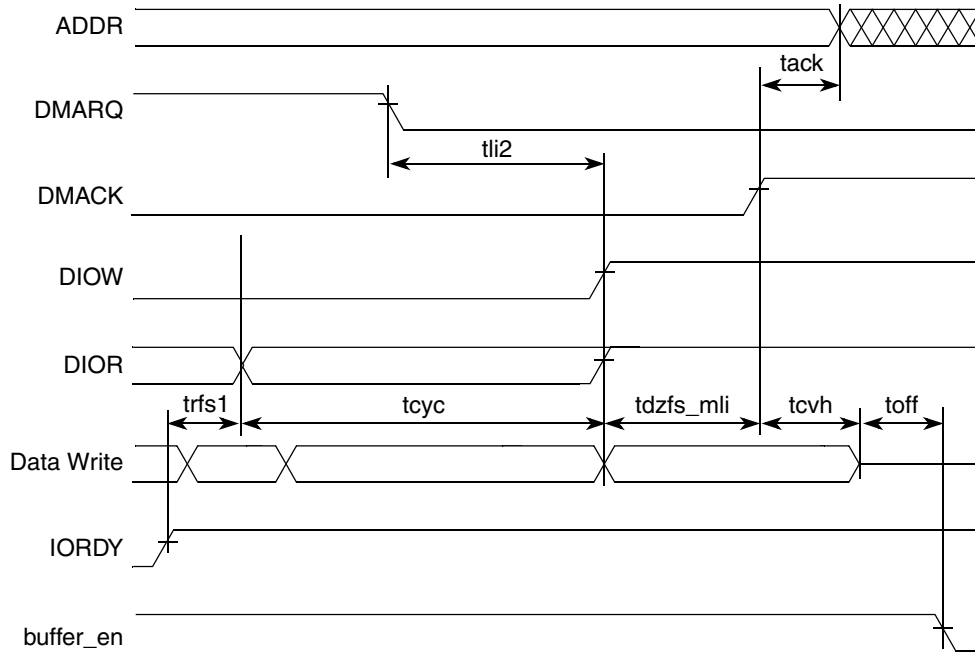

Figure 32. UDMA Out Device Terminates Transfer
- Figure 32 gives timing for device terminating UDMA out transfer.